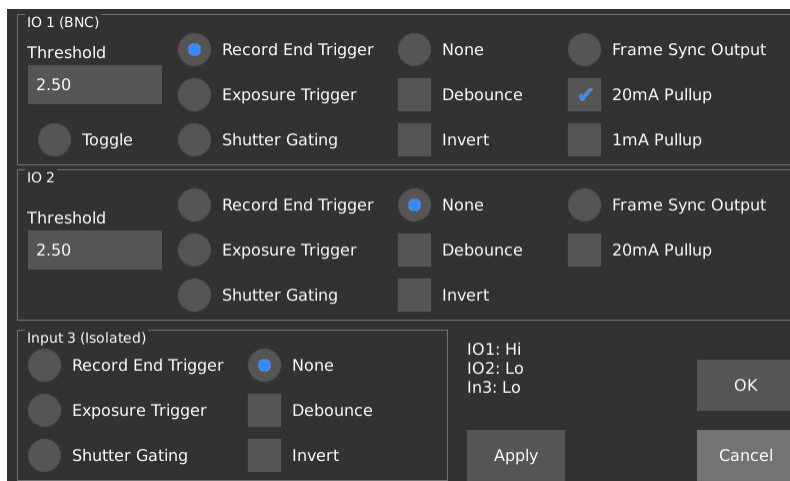

Figure 1.2 Settings for the driving and driven cameras when using the record end option
- Set up the transmitter and receiver camera trigger settings as portrayed in **Figure 1.2**. You can use the receiver camera’s settings on any additional receiver cameras.